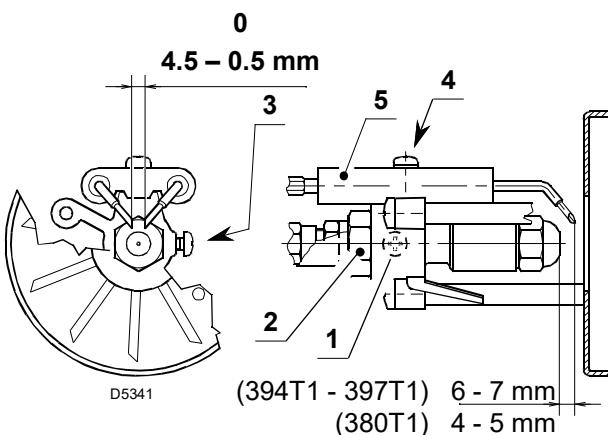
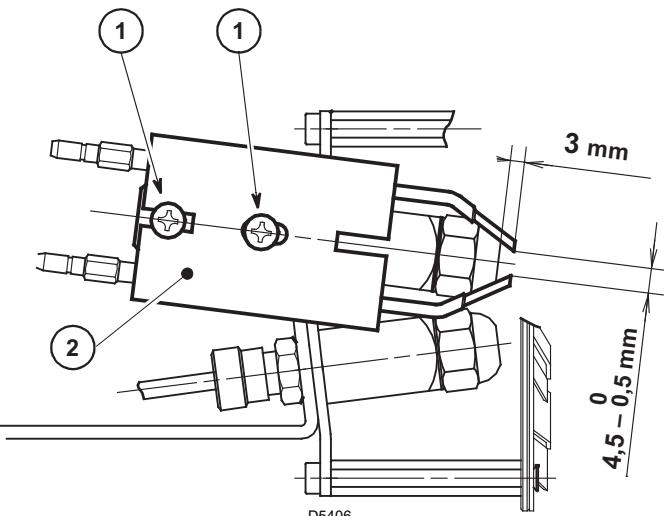

Fig. 11
Fig. 12
The measurements shown in Fig. 11 and Fig. 12 must be respected.
- Rest the diffuser disc-holder assembly 1) Fig. 11 against the nozzle holder 2) and lock it with the screw 3).
- For any adjustments, loosen the screw 1) and move the electrode assembly 2) Fig. 12.